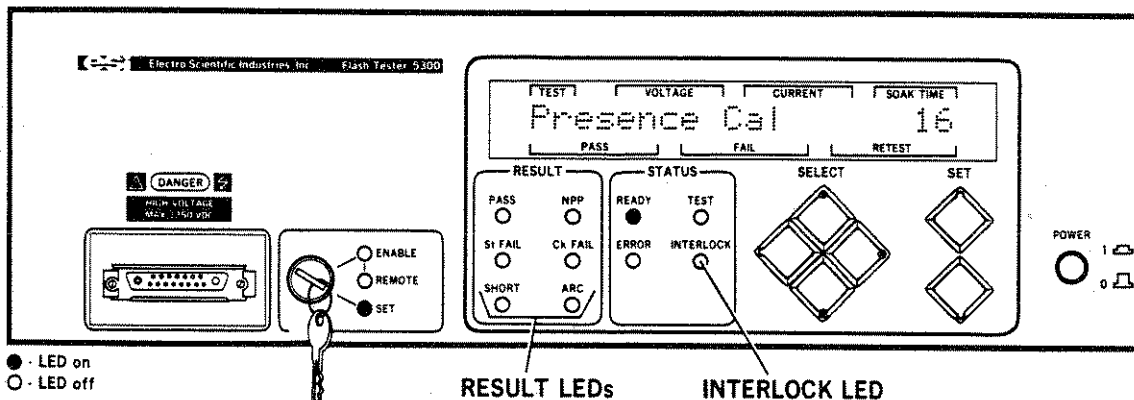

Figure 3-69. LED Locations
- STEP 11. Close the test head or test fixture cover. Verify that the INTERLOCK LED on the 5300 is no longer illuminated. Refer to Figure 3-69 for the location of this LED.